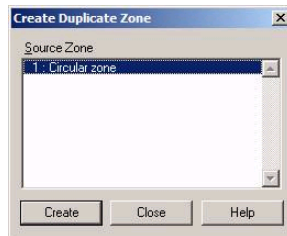

Figure 24-14. The Create Duplicate Zone dialog.
1. From the Data menu, choose Create Zone, then Duplicate. The Create Duplicate Zone dialog appears, as shown in Figure 24-14.